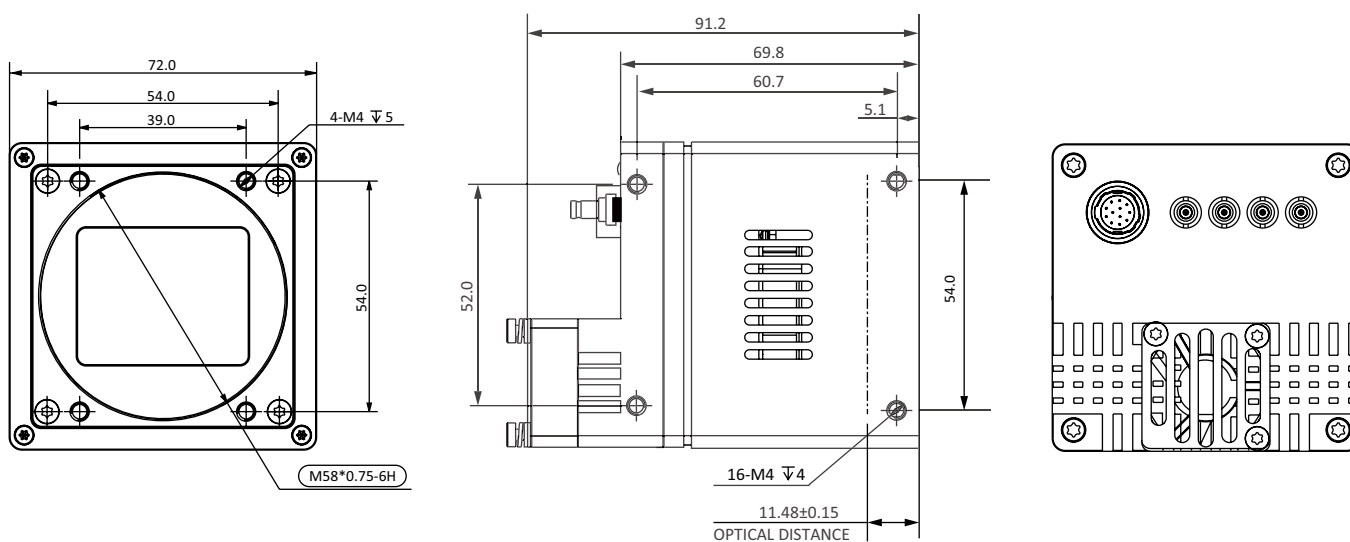

Fig. 1-7: Mechanical Dimensions (in mm) for Cameras with 72 * 72 * 69.8mm housing (M58 interface).
- Fig. 1-7: Mechanical Dimensions (in mm) for Cameras with $72 \times 72 \times 69.8$ mm housing (M58 interface).